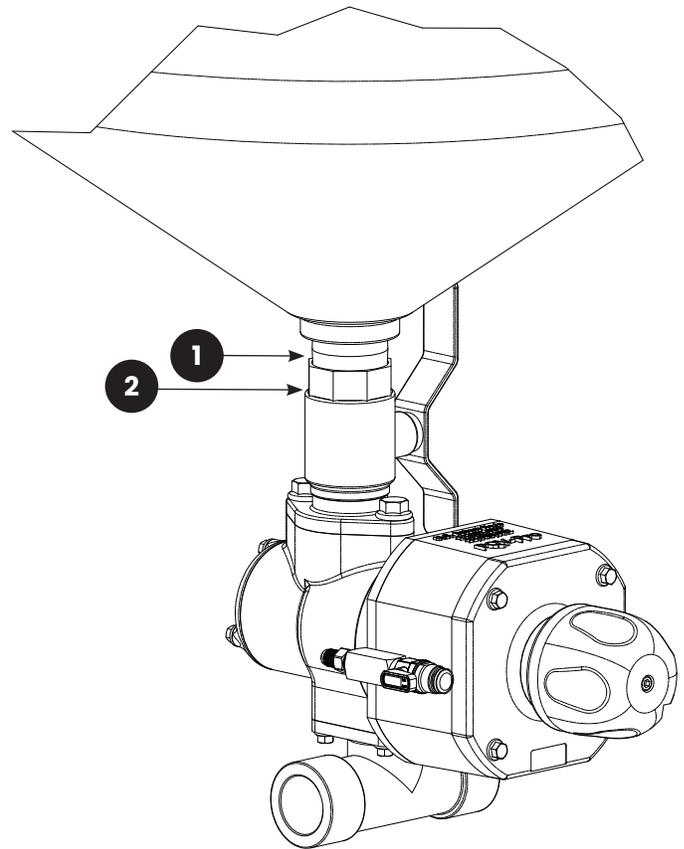

FIGURE 3: (1) 1.50" Installation Nipple; (2) Use wrench to tighten only on wrench flats
2.2 Install PQV-Pro Valve onto the Blast Machine — Figure 3
Tighten and align the valve by using a wrench on the flanged inlet nipple or ball valve only, as shown in **Figure 3**. Avoid applying pressure on the valve body or outlet pipe (lower flange) to tighten or align the valve. Doing so could damage the upper or lower flanges.
2.2.2 | Apply thread sealant to both ends of the 1-1/2" NPT installation nipple and use the nipple to attach the upper flange to the machine as, shown in **Figure 3**.
2.2.3 | Use a pipe wrench or strap wrench to grip the valve body or body of the inlet nipple to tighten it onto the blast machine. Do not use a wrench on or below the flanges, as noted in **Figure 3**. Doing so could damage the flanges.
2.3.1 | Apply pipe thread sealant to the male threads of a new 1.25" NPT nipple (1.50" NPT when using the 1.50" outlet pipe) and connect the blast hose coupling to the outlet pipe as shown in **Figure 3**.